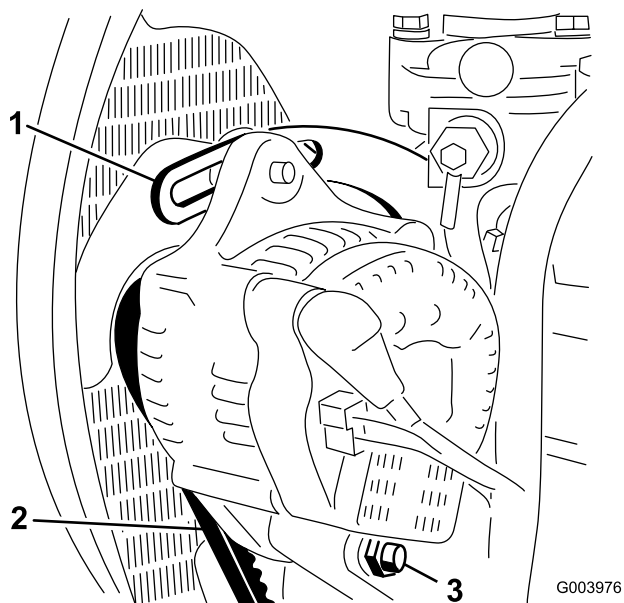

Figure 49
2. Check the tension of the alternator belt by depressing it (Figure 49) midway between the alternator and the crankshaft pulleys with 10 kg (22 lb) of force.
3. Loosen the bolt securing the brace to the engine (Figure 49), the bolt securing the alternator to the brace, and the pivot bolt.